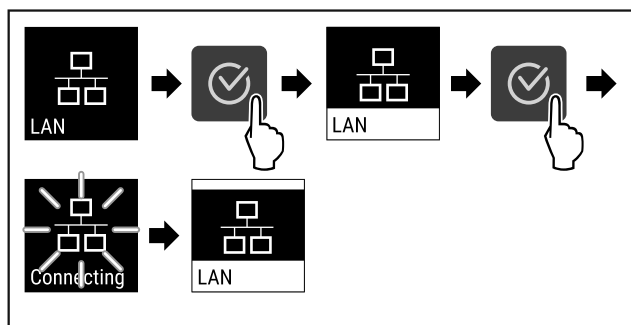

Fig. 91
- Complete the steps (see Fig. 91).